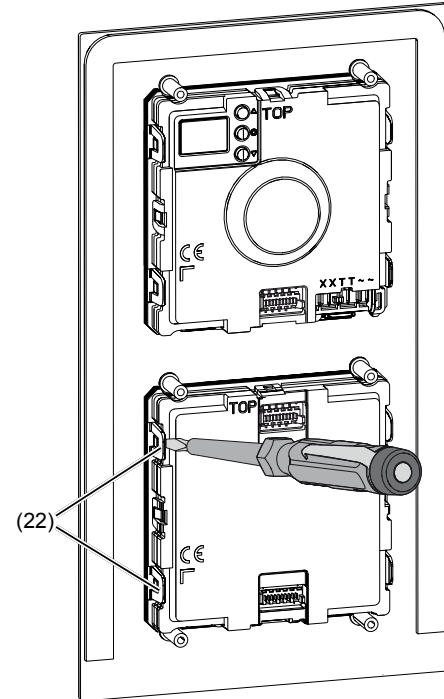

Figure 17: Unlatching module
(20) Screws
(21) Module mounting
- Unlatch retaining brackets (22) of each module by carefully lifting up with a screwdriver (Figure 17).
- To remove the call push-button module, unlatch the side retaining brackets (22) of the module mounting by carefully lifting up with a screwdriver (Figure 17).